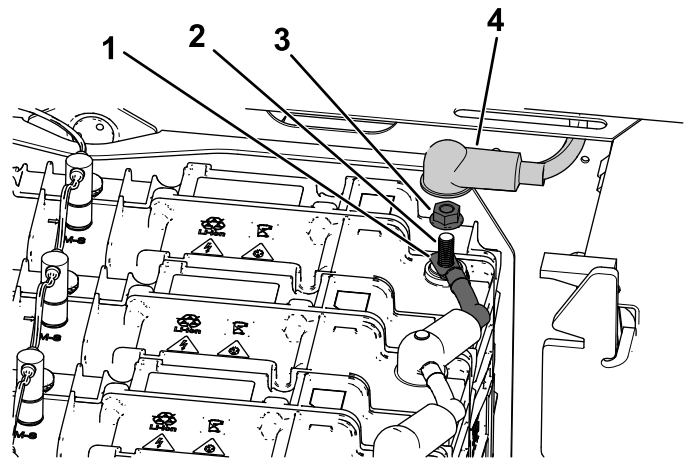

Figure 43
2. Remove the flange nut and negative (–) battery cable from the battery post (Figure 43).
1. Secure the negative (–) battery cable to the battery post using the flange nut (Figure 43).
2. Install the negative (–) battery terminal boot over the battery post (Figure 43).